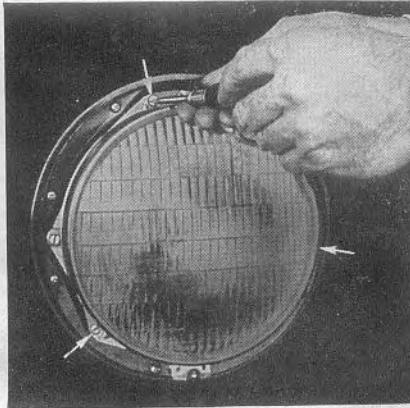

Fig. 28—Three Screws Hold the Retainer Ring in Place
2. Loosen but do not remove the three screws holding the retaining ring as in Fig. 28. Do not disturb the aiming screws at the top and on the left side of the unit.